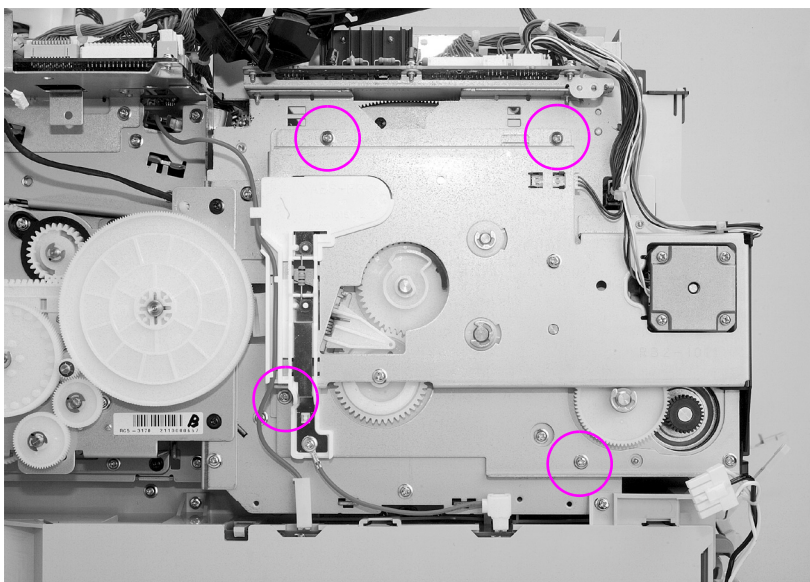

Figure 6-41 Carousel drive assembly removal and replacement (2 of 2)
- 10 Remove the four screws shown in Figure 6-41 from the carousel drive assembly.
When replacing the carousel drive assembly, be sure to align the “D” shaped shaft with the “D” shaped hub located on the gear shown in the center of Figure 6-41.